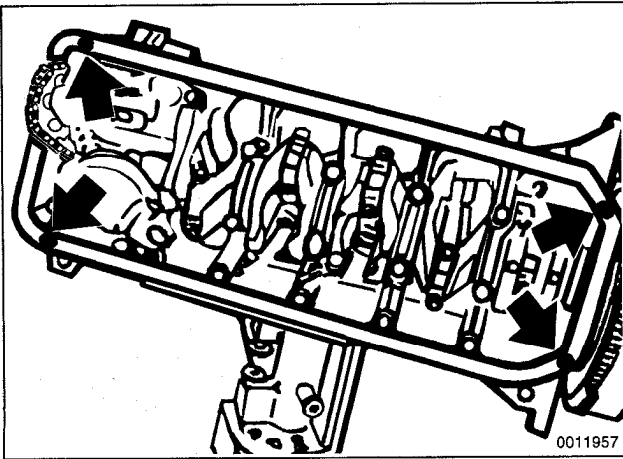

Fig. 12. Joint-mating areas at oil pan gasket where sealer should be applied (**arrows**). Apply a bead 3 mm wide by 2 mm high.
- Apply a small amount of non-hardening sealer (3-Bond 1209® or equivalent) to oil pan gasket directly below joints for end cover and front timing case cover. See Fig. 12.